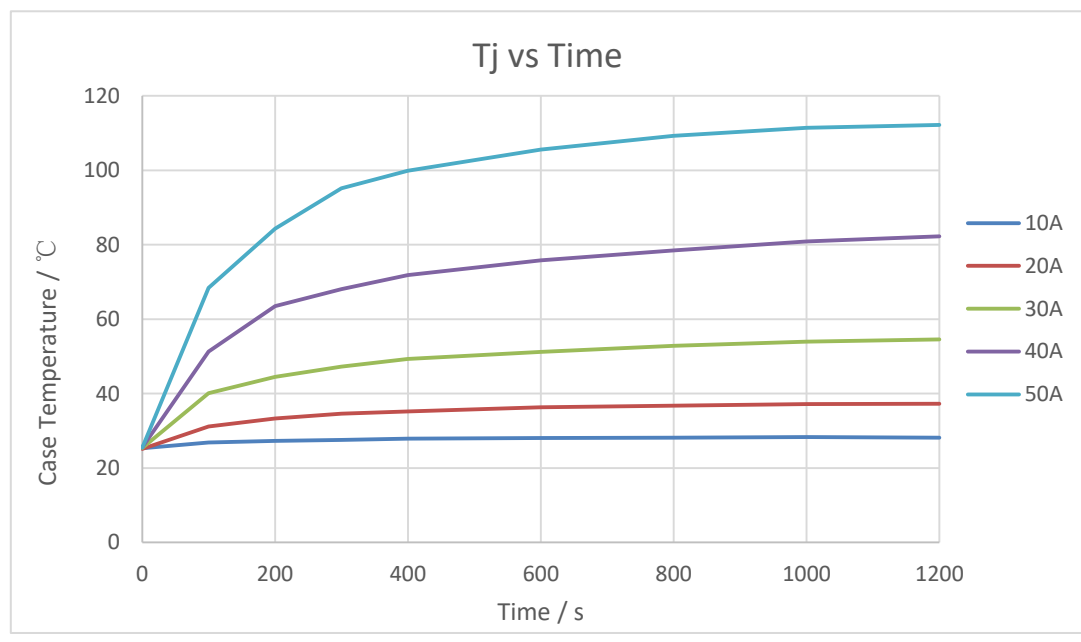

Figure 1. Relationship between STK-616TM Case temperature and amount of input current
**Remark 1:** Figure 1 shows the results of current & temperature measurement. Tested by using a standard demo test board, with 4 layers of copper conductors, where the thickness for each layer is 2 oz, the total thickness of demo board is 1.6 mm. This result is a reference data. Tc is changed much by the board layout and the heat dissipation. Please confirm it in your evaluation environment.